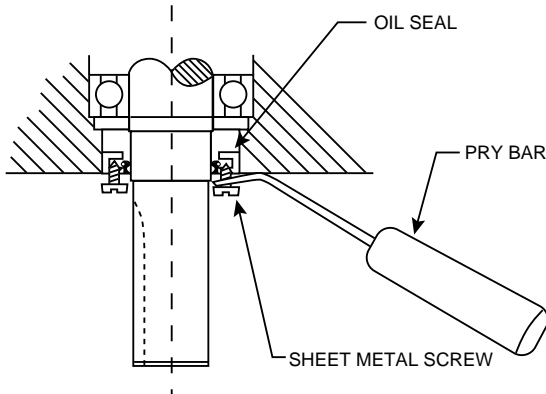

Fig. 8
- B. Drill two holes in the seal face 180° apart. Insert large sheet metal screws and leave about 3/16" (4.76 mm) length of screw under the head protruding. Use a pry bar with the notch at one end under the screw head to lift the seal out. (See Fig. 8)